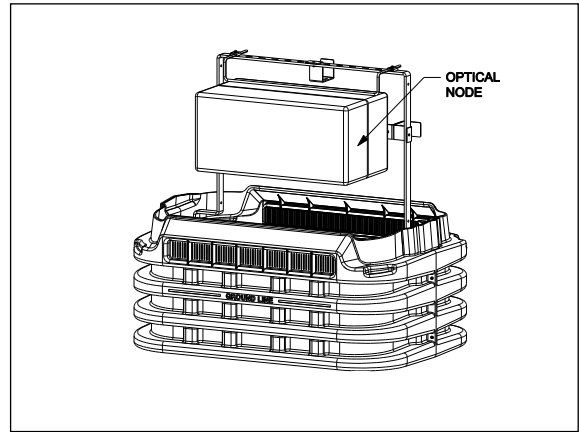

Figure 4
1. Mount the customer supplied optical node onto the hanging bracket using the two mounting brackets that are typically installed on the node (Figure 4).